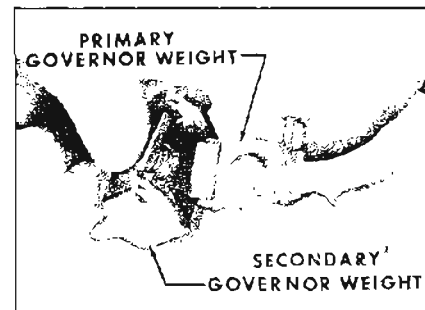

Figure 5-248
3. Retaining governor weight spring in primary governor weight spring in primary governor weight with finger insert secondary governor weight. Repeat Steps 2 and 3 for other governor weight. See Figure 5-248.